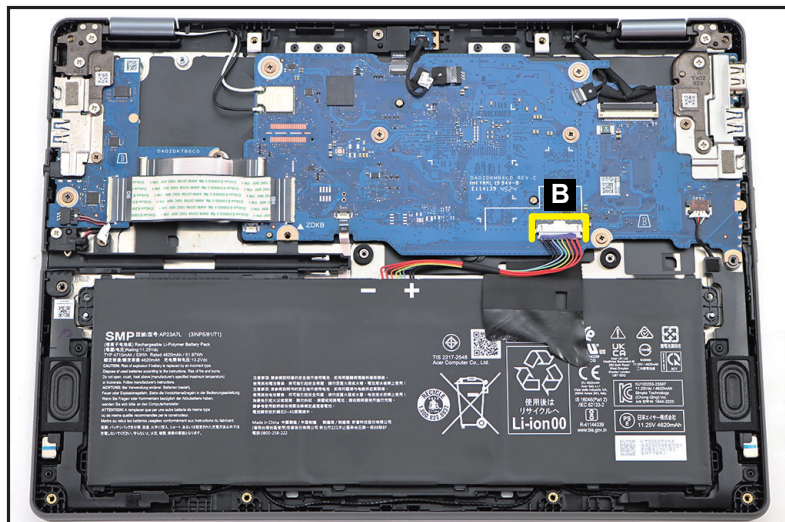

Figure 1-7. Battery Pack Removal
2. Disconnect the battery cable from the mainboard connector (B) (Figure 1-7).